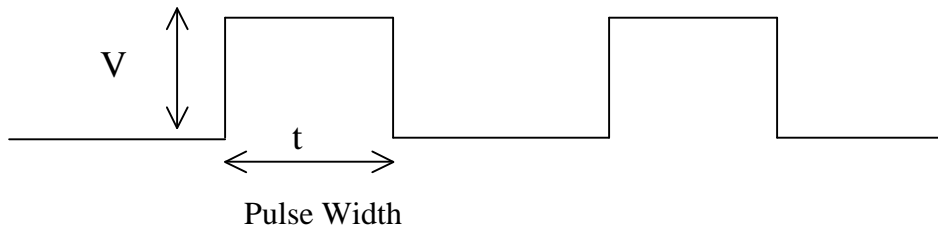

Fig. 2. - Pulse Generator Typical Output
- a) The pulse generation function is used to generate pulses with a specific width (from 2 milliseconds down to 200 nanoseconds). The height of the pulse is fixed, while the width of the output pulse is selected using knob (1), and the output is taken from the breadboard connector (2). The typical output for the pulse generator looks as shown in Figure 2.
- c) The frequency for any of the three signals is selected using knobs (3) and (4). The output for the square wave signal can be taken from either breadboard (5a) normal or (5b) complemented. Switch (6) selects between sine and triangular waves, and the output for these signals can be taken from breadboard (7).
- d) The eight binary static switches (8) can be used to generate digital values or variables that can be used as inputs for the lab experiments. The output for each switch can be fixed to a logical zero or a logical one. The outputs for the switches are taken from the breadboard connectors (9).
- e) The two pushbuttons (10) and (11) can be used to manually generate binary pulses, digital transitory values, or variables that can be used as inputs for the lab experiments. The pulses are similar to the one shown in Figure 2. The output (normal or complemented) can be taken from the breadboards (12) and (13).
- f) The logic probe can be used to detect and display a digital signal or variable that is connected to the breadboard connector (17). The value of the variable is shown as a high or a low value by lighting the respective display (18).
- g) The logic value displays (20) can be used to show the value of up to 8 different digital signals or variables. Each variable is connected to its respective display using the breadboard connectors (19).
- h) The prototyping breadboard (16) can be used as an extra board to build part of the lab experiments if needed, and breadboards (14) and (15) can be used to connect the circuits to ground and the power supply respectively.